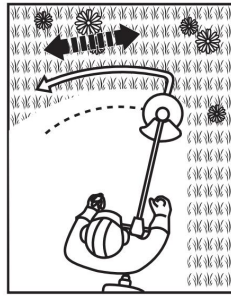

Fig. 45
5. Move the product with a slow regular arc from left to right before moving it back to the starting position before trimming the next area (Fig. 45).